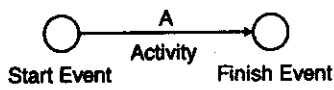

Fig. 8.7
Step 1. The activity 'A' has no preceding activity and is represented by an arrowed line (Fig 8.7).